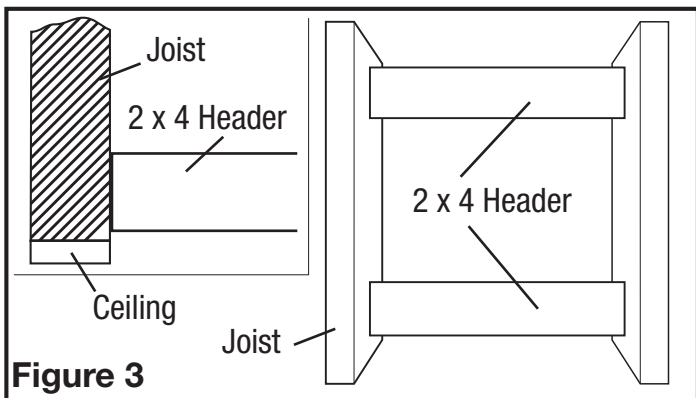
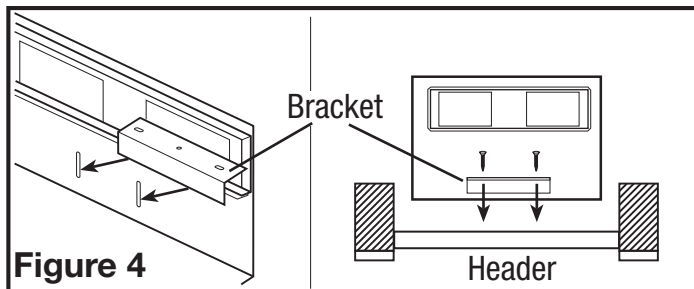

Figure 3
Figure 4
- Install two - 2 x 4 headers (not included) between the joists (Figure 3). Install the mounting brackets through the top set of slots on the fan housing and secure in place with the four included nuts. Position the fan housing between the headers and secure the mounting brackets with screws (not included) to the header. Adjust the height of the housing so that it is flush with the finished ceiling by loosening the mounting bracket nuts and sliding the housing up or down on the bracket. Fully tighten all four nuts to secure the housing in place (Figure 4).